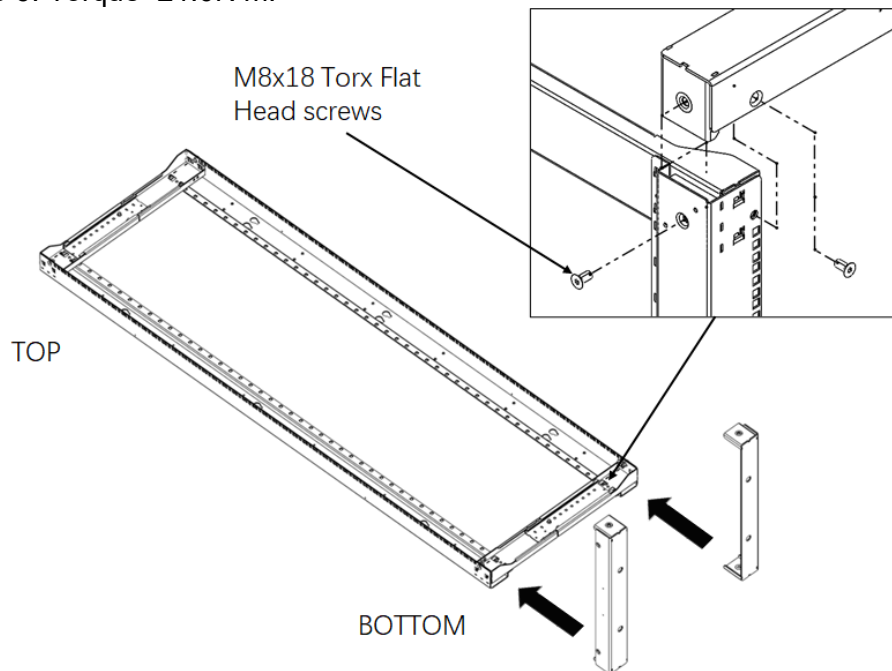

Figure 6
2) Take another side frame kit and install two connecting beams on the bottom side of it, fix two corners with screws 4 pcs M8x18 Torx Flat Head screws as shown in Figure 6. Torque=21.0N·m.